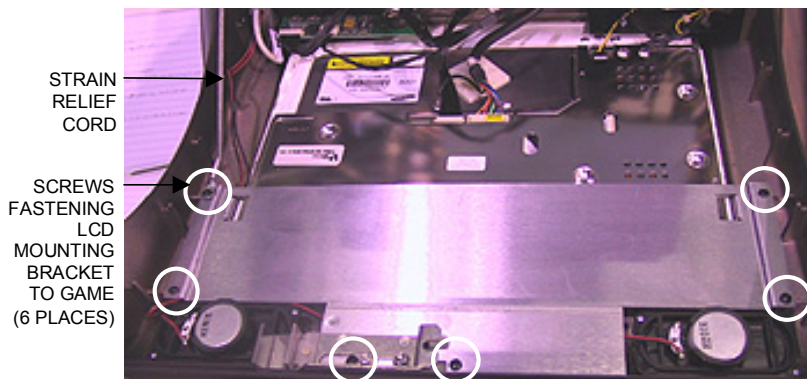

FIGURE 1 - FORCE EVO/EVO WALLETTTE - MONITOR REMOVAL
4. Remove the (6) screws fastening the LCD mounting bracket to the game (one screw also fastens the strain relief cord) and remove the bracket. See Figure 1.